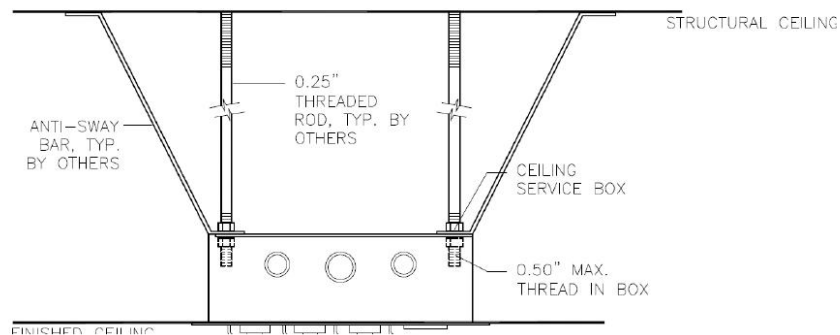

Figure 1
- Use (minimum) 1/4" threaded rods (not included) to structurally anchor the rough-in box. Antisway bracing is also required. See Figure 1.